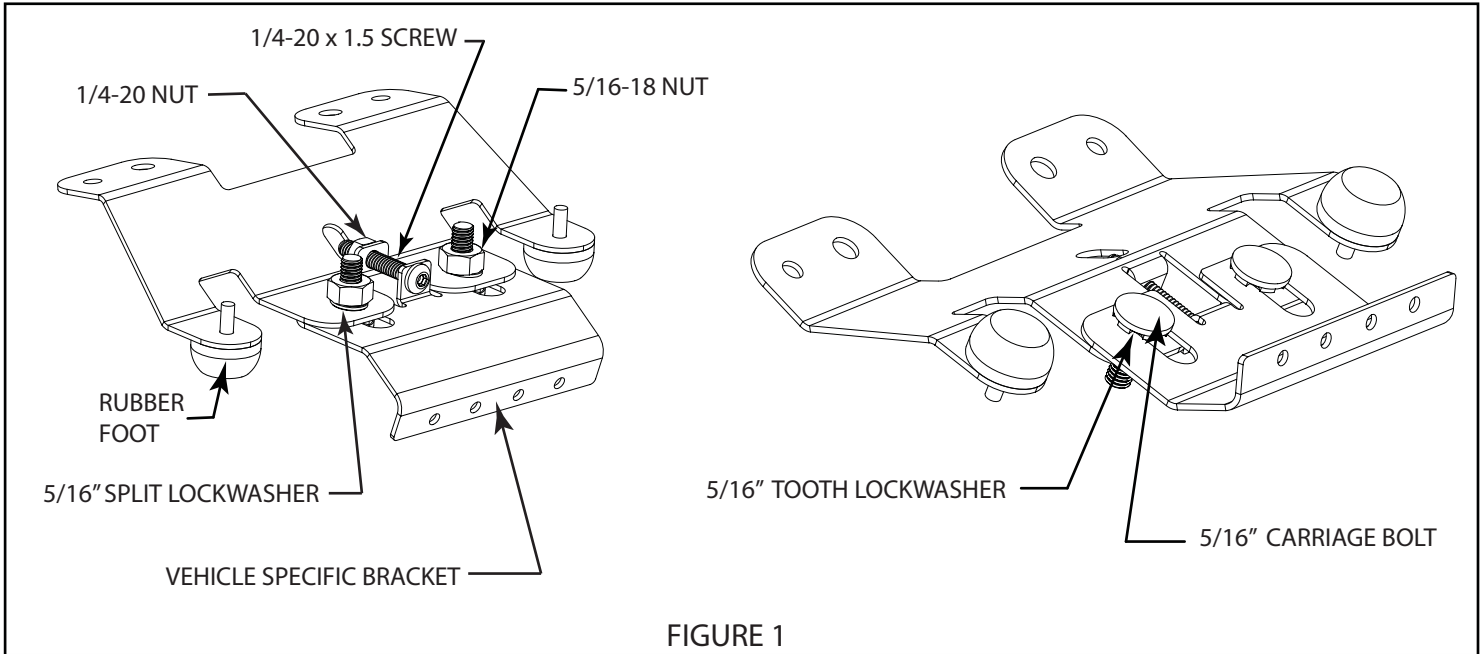

FIGURE 1
1. Assemble mounting bracket as shown in figure 1. Your vehicle specific bracket may look differently; figure shown as a reference.